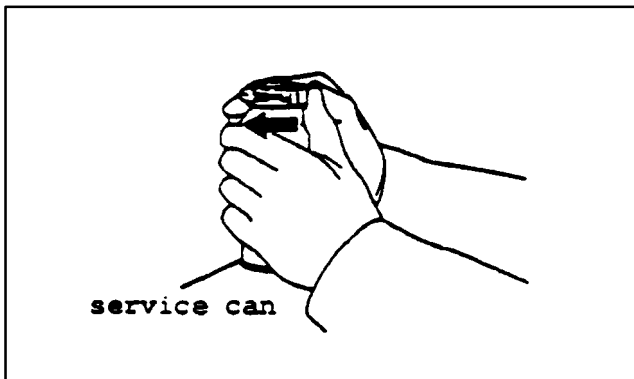

Figure 6
- (1) After evacuation, with the service can valve still seated, install the service can holder on the refrigerant oil charge can. **(Figure 6)**